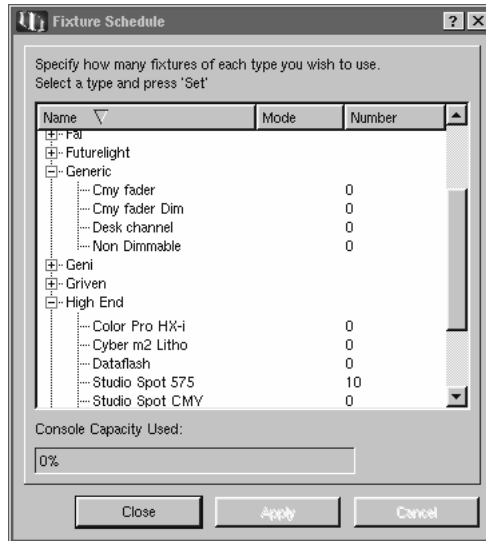

Figure 7-1. The Fixture Schedule window
You add fixtures using the Fixture Schedule, see *Figure 7-1*. The Number column shows the number of fixtures of that type currently in the show. Any mode options specific to the fixture type are shown in the Mode column.
1. Setup → Fixtures → Schedule... → Fixture Schedule : The Fixture Schedule window will open with a list of fixture personalities in the current Fixture Library. Each fixture is listed under its manufacturer, while Desk Channel and Scroller-Dimmer are listed under Generic. See *Figure 7-1*.